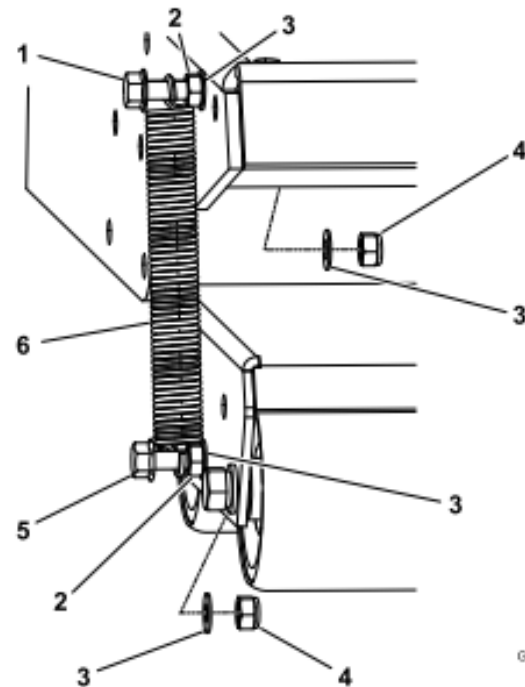

Figure 10
5. Connect each of the 2 springs to the appropriate steering head, using the flange-head bolts provided and the washers, nuts, and locknuts previously removed; refer to Figure 10.